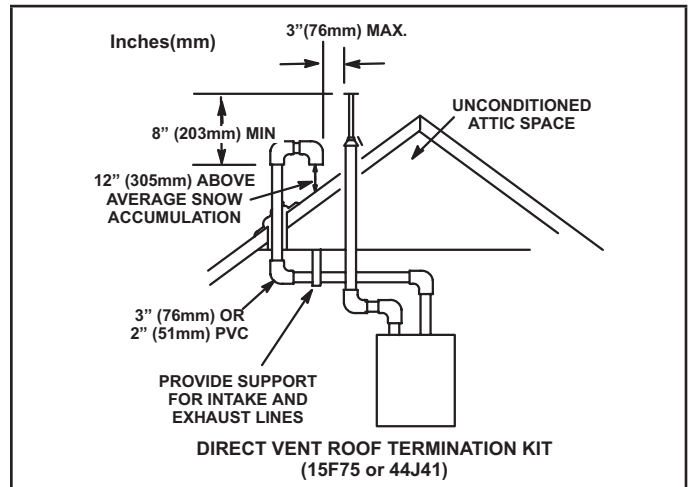

FIGURE 34
Intake and exhaust pipes may be routed either horizontally through an outside wall or vertically through the roof. In attic or closet installations, vertical termination through the roof is preferred. FIGURE 34 through FIGURE 41 show typical terminations.
- 3 - On roof terminations, the intake piping should terminate straight down using two 90° elbows (FIGURE 34).